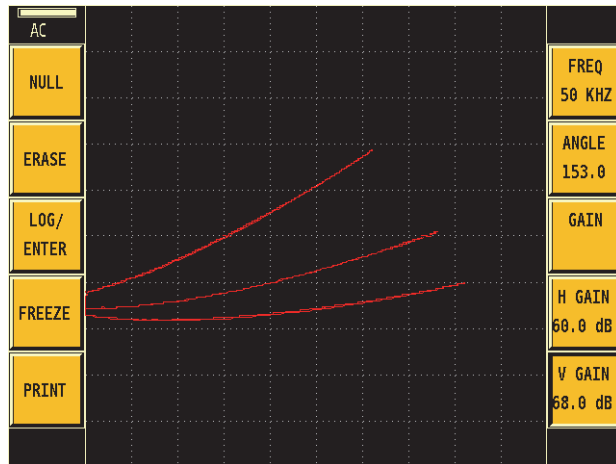

Figure 4-6 Conductivity curve
7. Place the probe on the MAG, and 7075-0 samples. The display should look similar to Figure 4-6 on page 75.